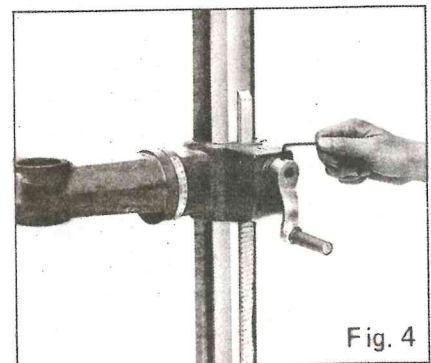

Fig. 4
3. Install bracket handle and clamp bolt. Fig. 4, 5.